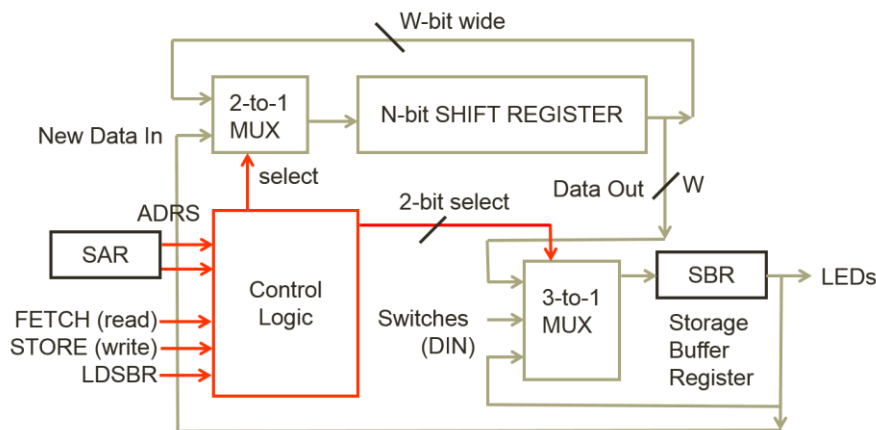

Figure 3: Block diagram of the shift-register storage unit.
But what is the 'current operation' at any given moment? Surely the desired operation is dictated by the user using the switches, but the inputs alone is not sufficient to tell each part of the circuit what to do. For example, if you would like to read from a specific address in the shift registers, you would first set the SAR to the specific address then you would hit the FETCH switch. But since the shift registers are constantly shifting data in and out of their serial ports, when exactly do you load the data into the SBR? How do you exactly tell what input the MUX should choose from? To solve the various problems associated with controlling and timing, it is generally not a good idea to use the inputs to directly control the various circuit components. Rather, it is almost always desired to have a centralized control logic that takes in all the inputs, process the request, and sends out various signals to control the circuit components. Figure 3 shows a general block diagram for the proposed circuit design. The most common form of a control logic is a state machine, which we will discuss in the next experiment. In this experiment, we will improvise a simpler control logic based on the properties requirements of our specific circuit.
- b. Include a high-level block diagram like figure 3 in the lab manual. This diagram should contain components on the granularity of registers, muxes, and blocks and include few/no individual gates.
- ii. Two block diagrams, one like figure 3 in the lab manual and one containing only the inside of the control unit.